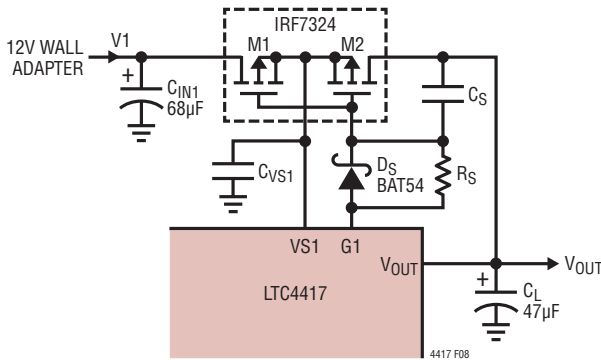

Figure 8. Slow Rate Limiting Gate Drive
Equation (13) assumes no inrush current limiting circuitry is required. If it is required, refer to Figure 8 and use the following Equation (14) for C_L.
where R_S and C_S are component values shown in Figure 8. The selection of R_S and C_L involves an iterative process. Begin by assuming $0.79 \cdot R_S \cdot C_S = 10\mu\text{s}$ and choosing C_L using Equation (14). See the Inrush Current and Input Voltage Droop section for more details regarding inrush current limiting circuitry, and for selecting R_S .
In situations where input and output capacitances cannot be chosen to set the desired maximum input voltage droop, or the peak inrush current violates the maximum Pulsed Drain Current (I_{DM}) of the external P-channel MOSFETs, inrush current can be limited by slew rate limiting the output voltage. The gate driver can be configured to slew rate limit the output with a resistor, capacitor and Schottky diode, as shown in Figure 8. The series resistor R_S and capacitor, C_S , slew rate limit the output, while the Schottky diode, D_S , provides a fast turn off path when G1 is pulled to VS1.